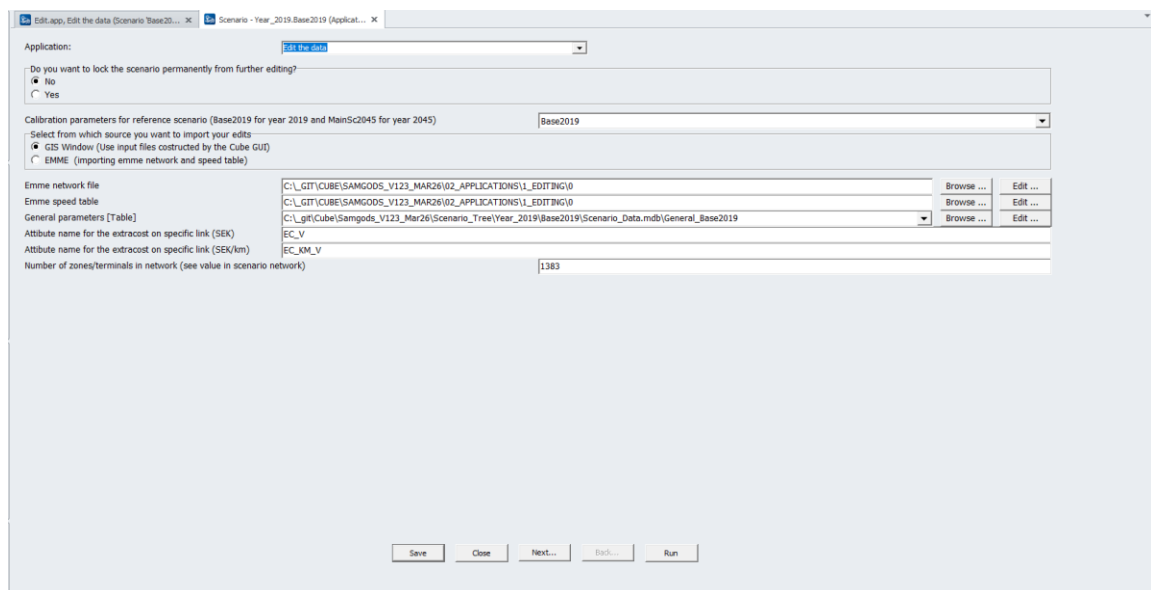
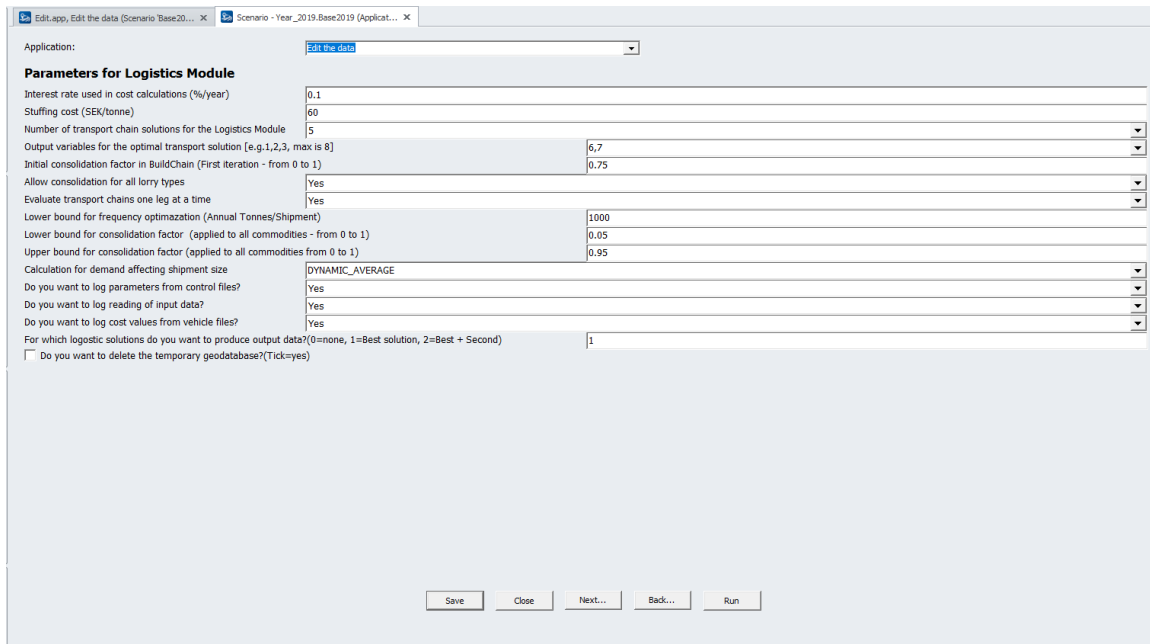
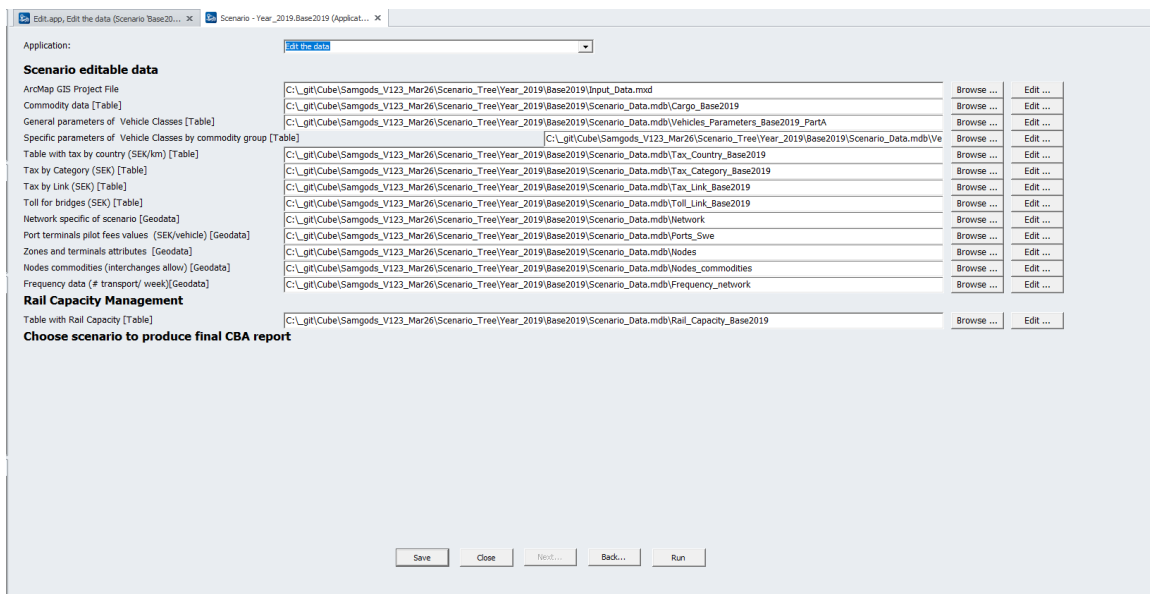

Figure 49 Catalogue keys in first window for *Edit the data* application
Figure 50 Catalogue keys in second window for *Edit the data* application
Figure 51 Catalogue keys in third window for *Edit the data* application
The temporary geodatabase is now available in the scenario folder (located in the Scenario_Tree folder, see Table 1 in Section 5.5) with all the scenario data. To visualize the tables and the layers of the scenario, change the application from *Create the editable files* to *Edit the data* in the Scenario manager window. In Figure 49 and Figure 38 the default values of the catalogue keys are displayed. The first set of catalogue keys (Figure 51) lists the scenario parameters and each catalogue key has an editing box (a box where a numerical value or label is expected), a scroll down menu, or a check box.
The second set of catalogue keys (Figure 50), accessed by clicking "Next..." in the window in Figure 49, consists of tables and layers of scenario data. By clicking the "Edit..." button on the right, the data is opened in the correct format (i.e., a table in a database window or a layer in a GIS window). Descriptions of the keys and of how to use them for editing and displaying the data are given in Section 7.4.
Tip: To visualize all the layers in a map, click the “Edit...” button, next to the ArcMap GIS Project File catalogue, key shown in Figure 51 pointing at the file *Input_Data.mxd*. All the geographical data will be loaded with a few default legends. The same file is available via Scenario Inputs\Editable Data\ *Input_Data.mxd* in the Data Section window.
The first set of catalogue keys (Figure 49) lists the scenario parameters. Each catalogue key has an editing box (where a numerical value or label is expected), a scroll down menu, or a check box. The second set of catalogue keys (Figure 50) accessed by clicking “Next...” in the window in Figure 49 consists of tables and layers of scenario data. By clicking the “Edit...” button on the right, the data is opened in the correct format (i.e., a table in a database window or a layer in a GIS window). Another way to access the data is to use the Data Section window, where the scenario data can be found in the folder Scenario Inputs\Editable data.
Tip: To visualize all the layers in a map, use the first catalogue key (“ArcMap GIS Project File”) shown in Figure 51, pointing at the *Input_Data.mxd* file. Click the “Edit...” button and all the geographical data will be loaded with only a few default legends. The same file is also available via the *Data Section* window, in *Scenario Inputs\Editable Data\Input_Data.mxd*.
- 5) If the scenario should remain editable, select “No” in the first catalogue key (see first group of catalogue keys; Figure 49). In order to lock the scenario, select “Yes.”